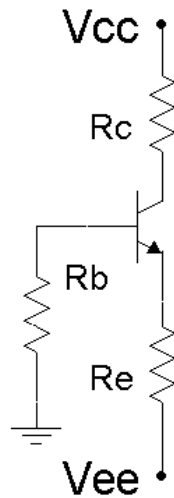

Figure 6.1
1. Consider the circuit of Figure 6.1 using  $V_{CC} = 15$  volts,  $V_{EE} = -12$  volts,  $R_B = 33$  k $\Omega$ ,  $R_E = 22$  k $\Omega$  and  $R_C = 15$  k $\Omega$ . Using the approximation of a negligible base voltage, determine the ideal end points of the DC load line and the Q point, and record these in Table 6.1.
3. Build the circuit of Figure 6.1 using  $V_{CC} = 15$  volts,  $V_{EE} = -12$  volts,  $R_B = 33$  k $\Omega$ ,  $R_E = 22$  k $\Omega$  and  $R_C = 15$  k $\Omega$ . Measure the base, emitter and collector voltages and record them in the first row of Table 6.2 (Experimental). Compute the deviations between theoretical and experimental and record these in the first row of Table 6.2 (% Deviation).
9. Build the circuit of Figure 6.1 in Multisim. Run a DC simulation and record the resulting transistor voltages in Table 6.6.